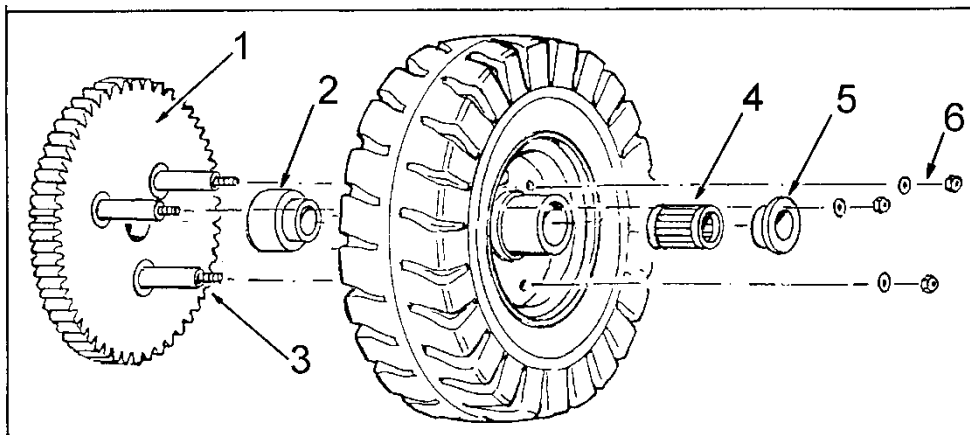

Fig 7.4 – Wheel Bearing, Removing and Lubricating
2. Remove the inner and outer spacers from the wheel. (Fig 7.4 items 2&5)